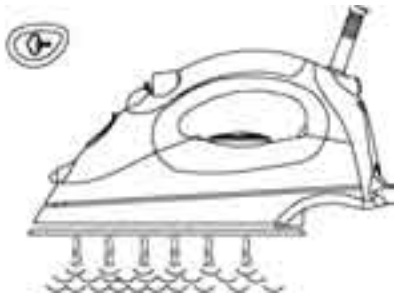

Figure 3
3. With the iron in a horizontal position, press the burst of steam button several times to prime the pump. See Figure 3.